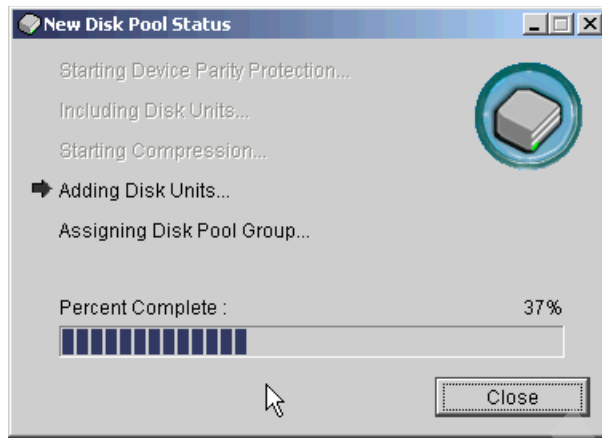

Figure 17-16 New Disk Pool Status
13. Take note of and respond to any message windows that appear. After you take action on any messages, the New Disk Pool Status window shown in Figure 17-16 appears and shows progress. This step might take some time, depending on the number and size of the logical units you add.